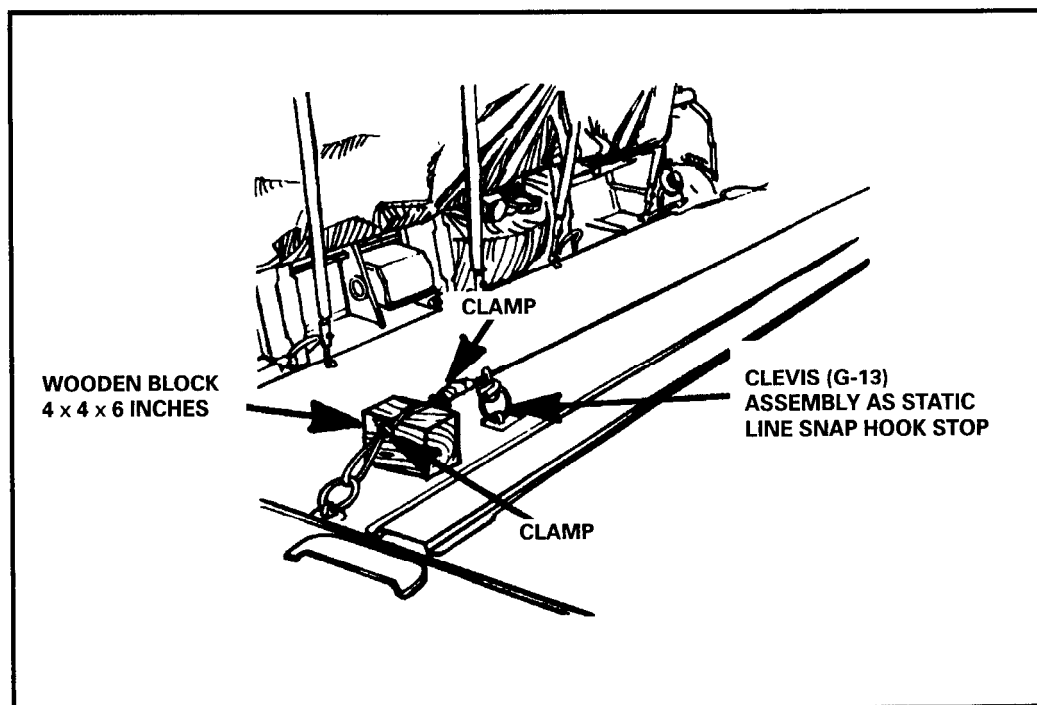

Figure 18-2. CH-53 anchor line installation.
- (1) Install the anchor line cable on the port side of the floor using the tie-down fittings at station number 182 as the forward attachment point, and station number 522 as the rear attachment point (Figure 18-2, page 18-2).
- (2) Use one ¼-inch or 3/8-inch steel cable, 30 feet 4 inches in length, with four clamps, lock washers, and bolts.